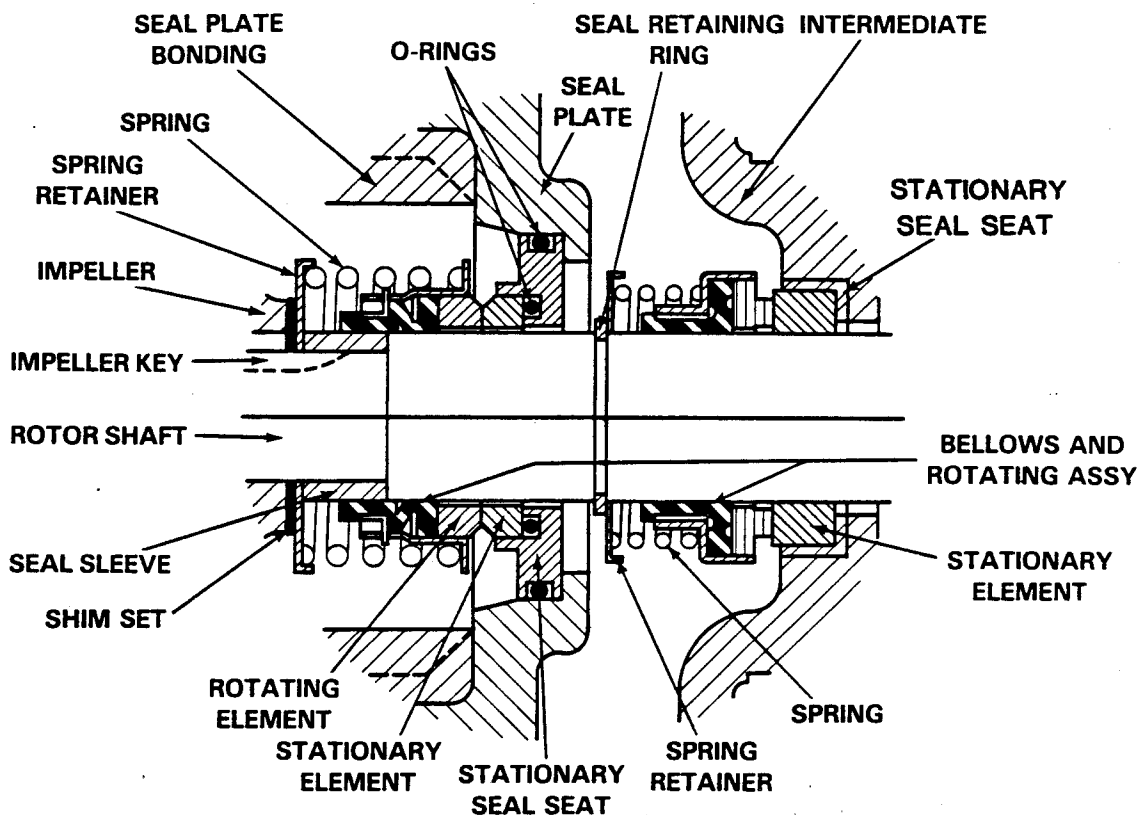

Figure 2. Seal Assemblies 25277-345 and S01832
Install the shaft seals as illustrated in Figure 2.
Slide the seal spring over the shaft and bellows retainer, and install the spring retainer. Install the seal retaining ring (7). See Figure 2 for proper order of seal assembly.
Unpack the stationary seat, and check that the O-rings are properly installed (see Figure 2). Apply a light coating of oil to the outer O-ring. Press the stationary seat into the seal bore until it bottoms squarely.